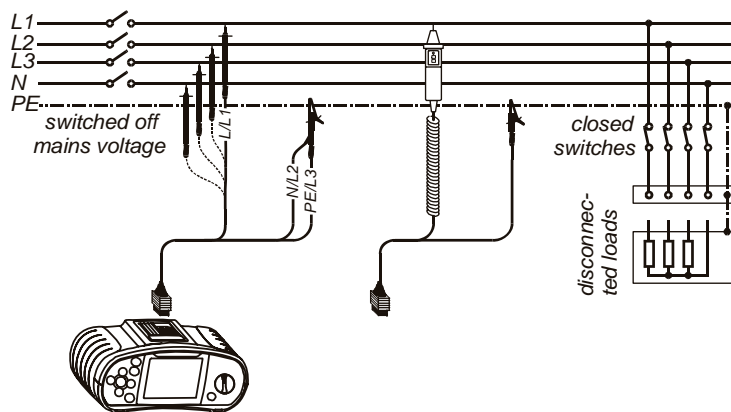

Figure 5.2: Connection of universal test cable and tip commander
Step 3 Connect test cable to the item under test. Follow the connection diagram shown in figure 5.2 to perform insulation resistance measurement. Use the **Help** function if necessary.